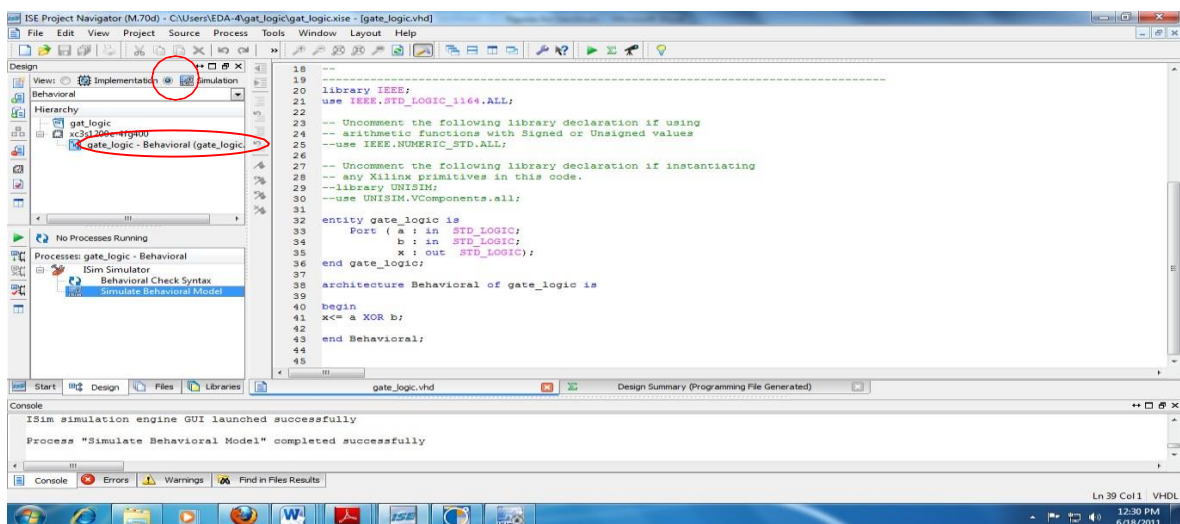
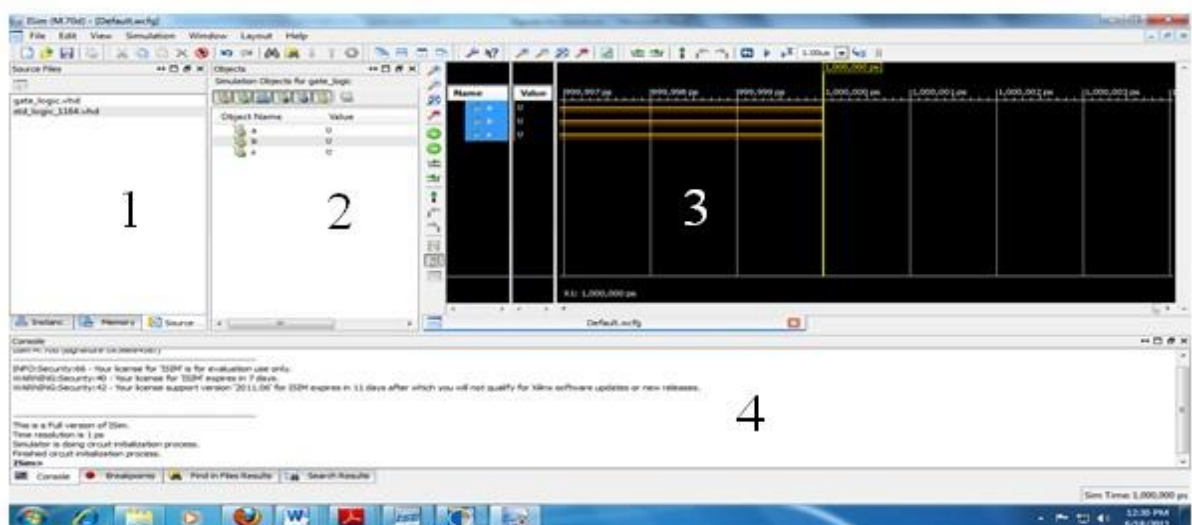

Figure 1: Behavioral Simulation Process
Figure 2: ISim window
- ii. Select gate_logic_Behavioral file (**figure 1**) and double click on Simulator Behavioral Model in the Process window, following ISim window (**Figure 2**) will appear.